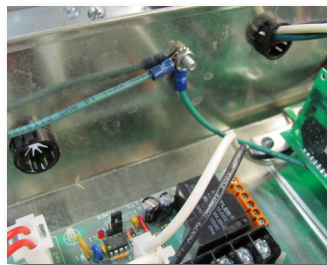
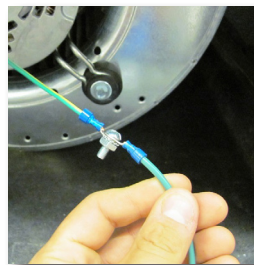

Fig. 3a
Fig. 3b
3. Disconnect motor ground wire from circuit box. (Fig. 3a) Using existing machine bolt, connect motor ground wire to provided ground wire extension. (Figs. 3b-3c)